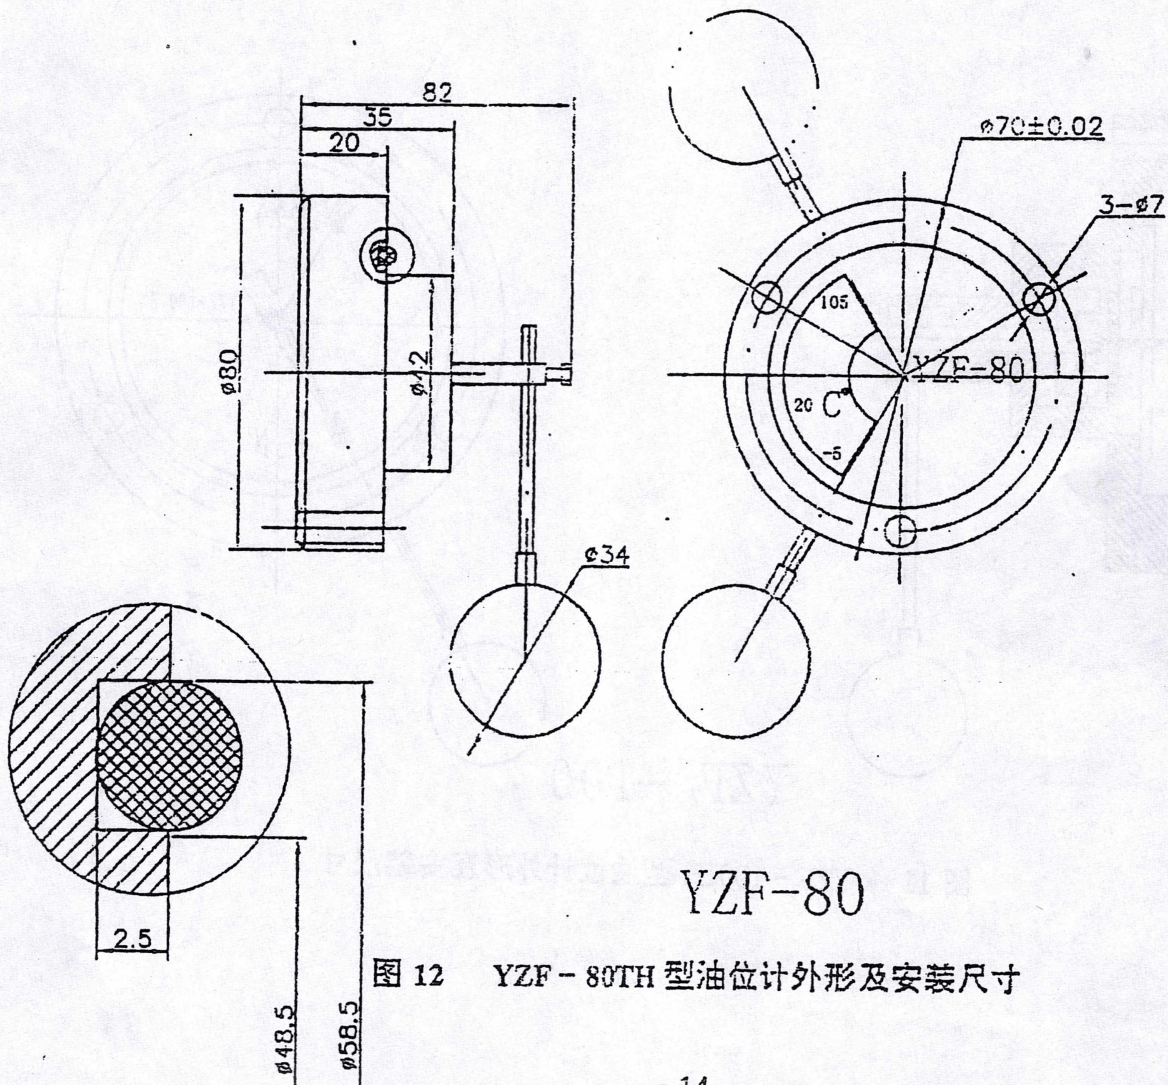

图 12 YZF-80TH 型油位计外形及安装尺寸
a. 油位计安装尺寸见图 12
a. the installation dimensions of the oil leveller see fig.12